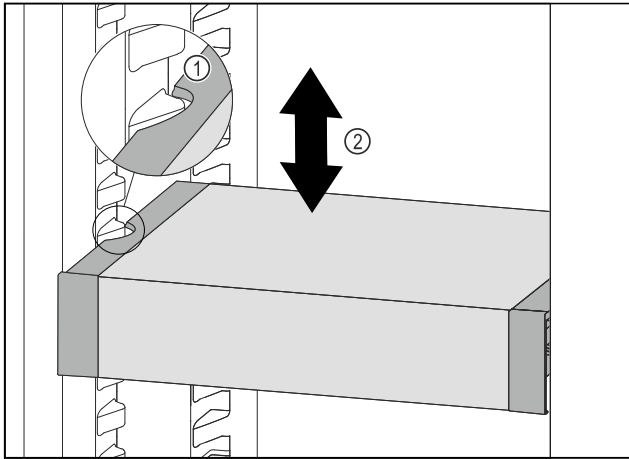

Fig. 40
- ▶ Pull VarioSafe forwards until the recesses in the side of the VarioSafe are at the level of the support rib in the refrigerator compartment. *Fig. 40 (1)*
- ▶ Move VarioSafe up or down in the refrigerator compartment until the desired height is reached. *Fig. 40 (2)*